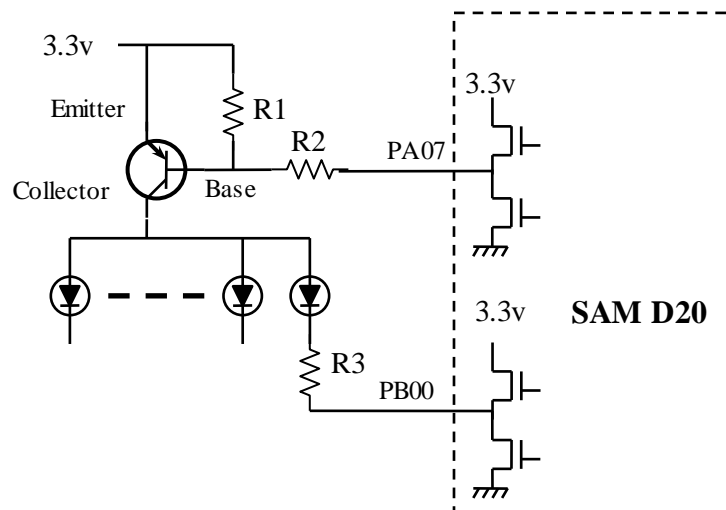

Figure 1.2 Seven-segment display control circuit (only one digit is shown).
- There are 8 LEDs in a single 7-segments display (7 LEDs for the digit and one for the decimal point). All 8 LEDs' anodes are connected together. This common anode is connected to the positive supply voltage +3.3v through a PNP transistor. The PNP transistor acts as a switch (see Figure 1.2). To turn on any or all of the LEDs, the PNP transistor must be 'turned on' by applying a base current by pulling the base voltage down by an output pin (e.g., PA07) through a current limiting resistor (R2). R2 should be selected so that the base current is high enough to drive the transistor to saturation in order to 'pass' the +3.3v (minus  $V_{CE_{sat}}$ ) to the common anode pin. Now, to turn on a LED segment, the corresponding cathode pin should be pulled down by another output pin (e.g., PB00) through a current limiting resistor (R3) to complete the current path through the LED to ground. This output pin should be configured to high drive strength (i.e., DRVSTR=1). R3 should be designed so the current is high enough to power the LED to its full brightness but not exceeds the maximum current the output pin can handle.